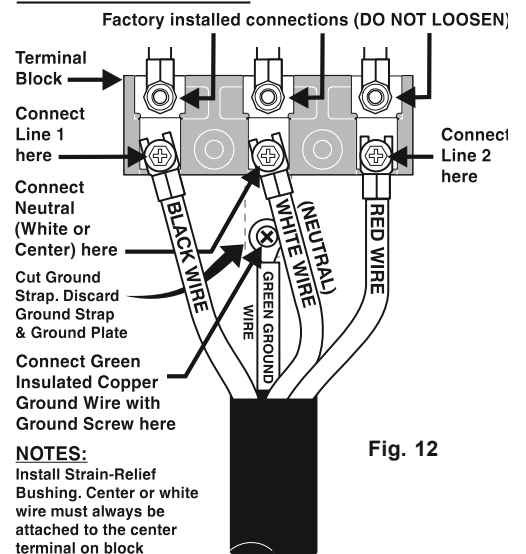

Fig. 12
(4-Wire Connection Instructions - Refer to Fig. 12)
- Connect the ground wire (Green) lead with the eyelet to the frame of the appliance with the ground screw using the same hole in the frame where the ground screw was originally installed (See Fig. 12).